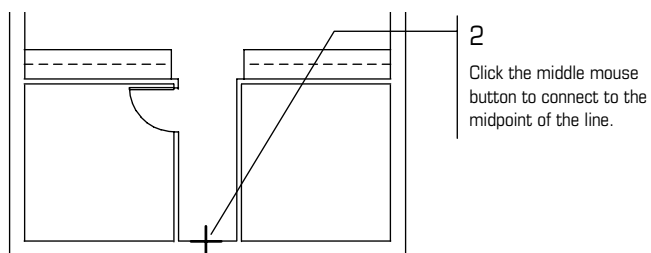

Figure 3.39: Defining the center of the front door
2. Move the mouse to the location shown in Figure 3.39. Click the middle mouse button to snap to the midpoint of the inside front wall. You are prompted to “Select strike side of door”.